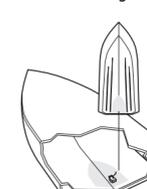

Figure 13
- As a general rule, the faster the boat can travel, the further aft and closer to the centerline of the hull the transducer has to be located to remain in contact with the water at high speeds (figure 13).